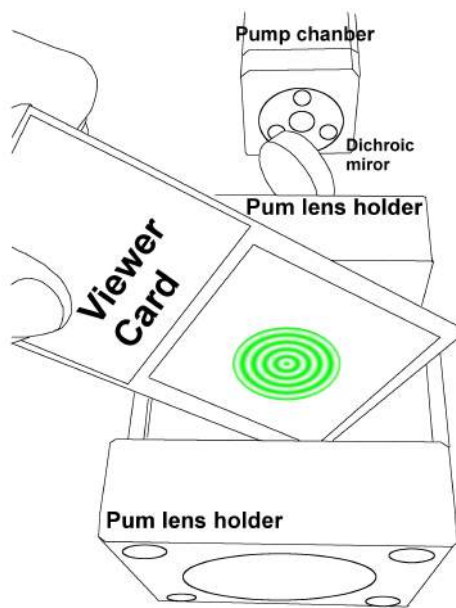

Figure 10.6: Pump light profile in between the two pump lenses
- Put the white viewer card in between the two pump lenses. Use the fiber bundle holder to align the fiber bundle, so that the shape of the pump light looks as a set of concentric rings, as shown in Fig. 10.6.